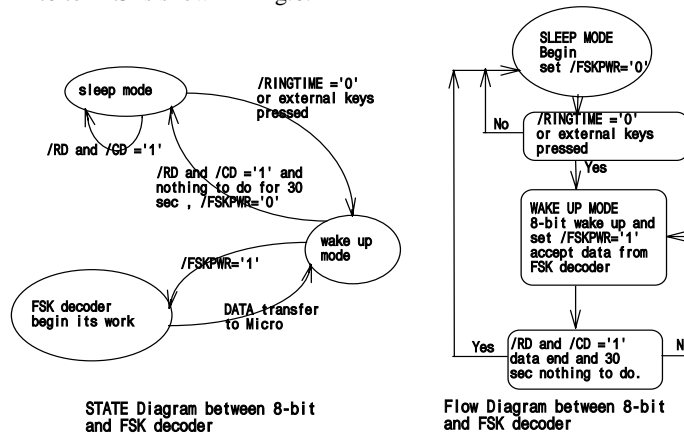

Fig6. The relation between Bit0 to Bit3.
- * The relation between Bit0 to Bit3 is shown in Fig.6.